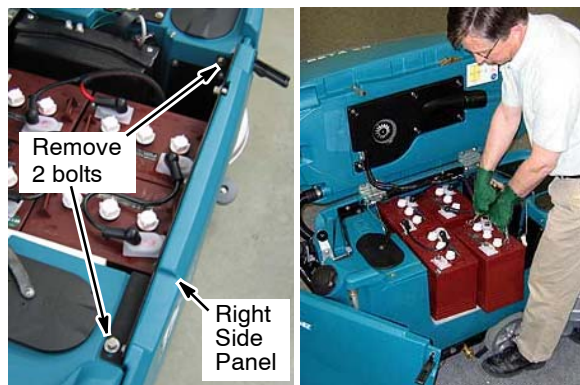

Fig. 1
2. Remove the right side panel from the machine and remove the 4 batteries to access the control box (Figure 1).